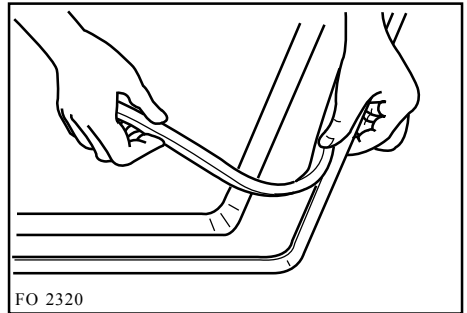

Fig. 2
- 2) Place the sealing gasket all around the glass top edge as shown in Fig. 2.